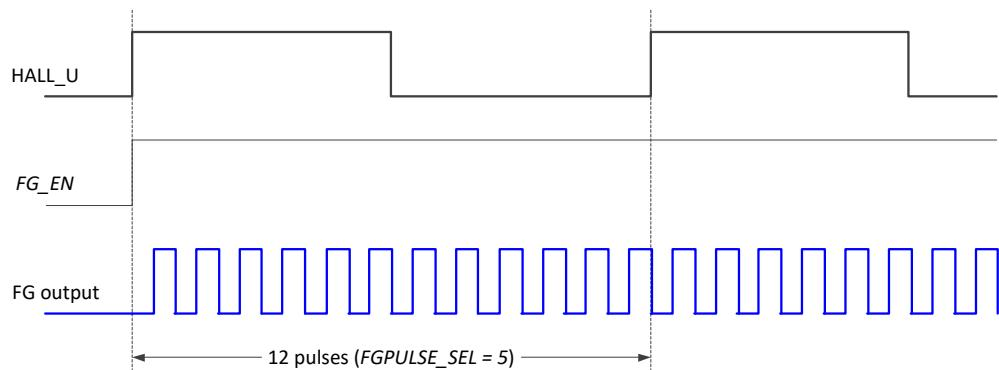

Figure 19.2.3 FG output when  $FG\_EN=1$ ,  $FG10PT8P=0$ , and  $FGPULSE\_SEL=5$
In addition to providing motor electrical cycle (motor speed) information, Motor Speed Observer can also output a fixed pulse number in a hall cycle according to the setting of FG\_CTRL SFR (see Table 19.2.3), that is, it can be used as a frequency generator (FG). Figure 19.2.3 shows an FG output waveform when the control bits in the FG\_CTRL SFR are FG\_EN=1, FG10PT8P=0, and FGPULSE\_SEL=5.